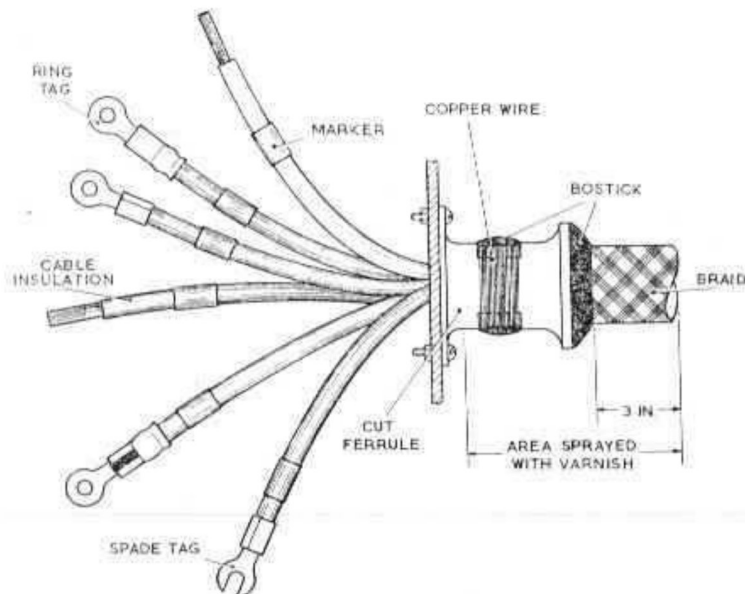

Fig. 17. Cut ferrule used with screened cable
68. Where the cut ferrule is bolted to the side of a junction box (no connector used), pass the cable through a split sleeve and through the cut ferrule into the junction box. Prepare the conductor ends with markers and suitable terminations (ring or spade type tags) depending on the terminal block in the junction box. With an unscreened cable, secure the cable in the ferrule by a few turns of waxed thread; with a screened cable secure the screen of the cable in the same way but with copper wire and solder the wire to the screen and the cut ferrule. Pull the sleeve over the ferrule and bind with twine; coat the twine with shellac varnish. An alternative method (where no split sleeve is used) is to seal the mouth and the slots of the cut ferrule with bostik and spray the area shown in fig. 17 with two coats of insulating varnish.